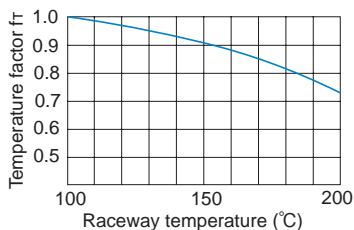

Fig.1 Temperature Factor (fT)
- $f_T$  : Temperature factor (see Fig.1 on A-627)
If the temperature of the environment surrounding the operating Flat Roller exceeds 100 °C, take into account the adverse effect of the high temperature and multiply the basic load ratings by the temperature factor indicated in Fig.1.